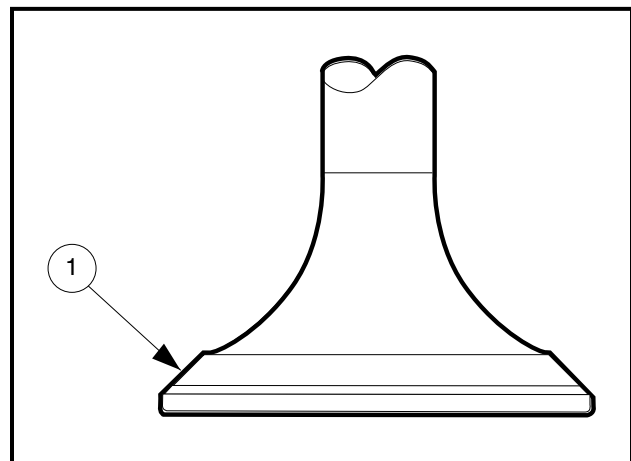

Figure 13-28 Valve Head Seating Area
1. Inspect the valve head seating area (1) for erosion, nicks and warping, etc. (**Figure 13-28, Page 13-16**).